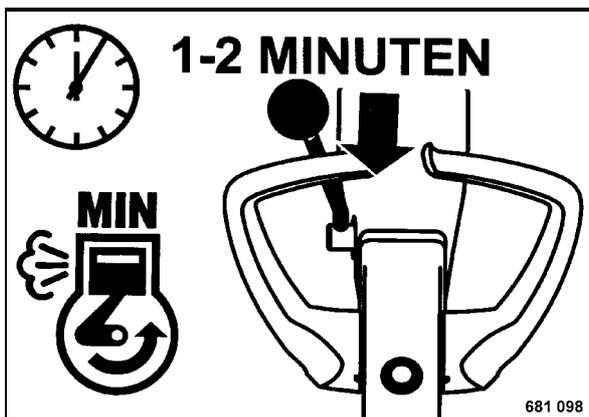

Fig. 33
- Run the engine warm for a short while before starting work (Fig. 33).